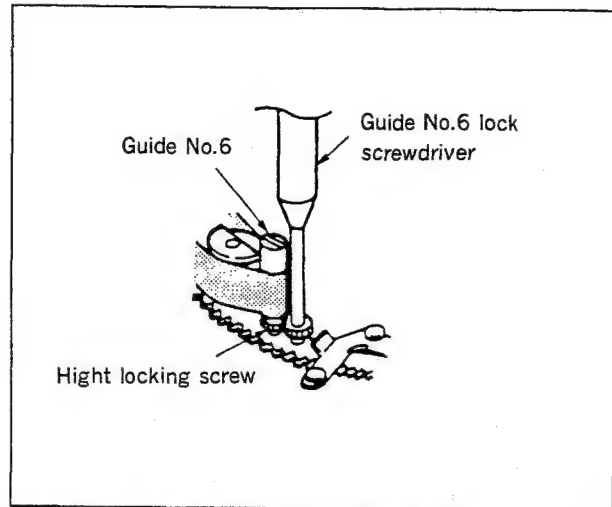

Fig. 6-5-3 Guide No.6 height adjustment
1. Rotate the Guide No.6 lock driver in counterclockwise direction to loosen the locking screw of Guide No.6. (See Fig.6-5-3.)